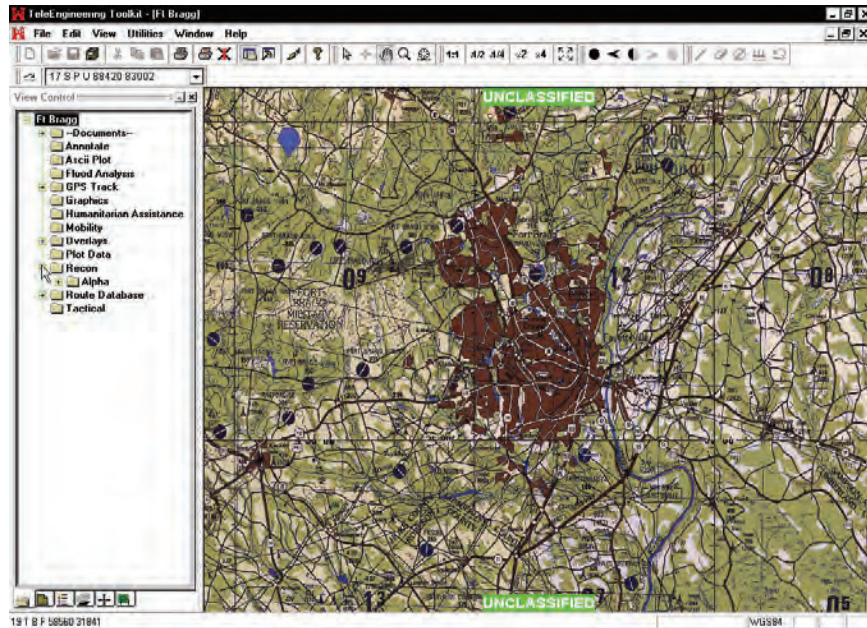

Figure 40. Expanding recon folder
8. Expand the “Recon” folder by selecting the “+” sign on the left of the “Recon” folder (Figure 40). The subfolder used to collect the recon data should now be displayed.